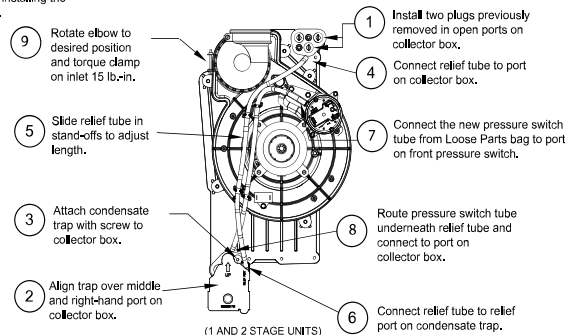

Fig. 11 – Horizontal Left Configuration
When the furnace is installed in the horizontal right position, the condensate trap will be initially located at the bottom of the collector box, as received from the factory. See the top image in Fig. 10. When the furnace is installed in the horizontal left position, the condensate trap will be initially located at the top of the collector box, as received from the factory. See the top image in Fig. 11. In both cases the trap must be repositioned on the collector box for proper condensate drainage. See the bottom images in Fig. 10 and 11.
- Fig. 11 shows the condensate trap and tubing before and after relocation in the horizontal left position.